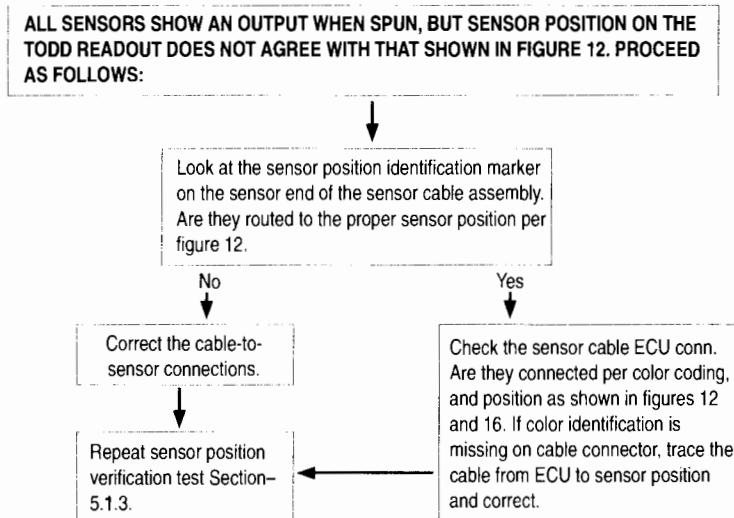

FIG. 26
- If the spun wheel position on the readout does not agree with the position defined in figure 12, refer to figure 26 for troubleshooting procedures.